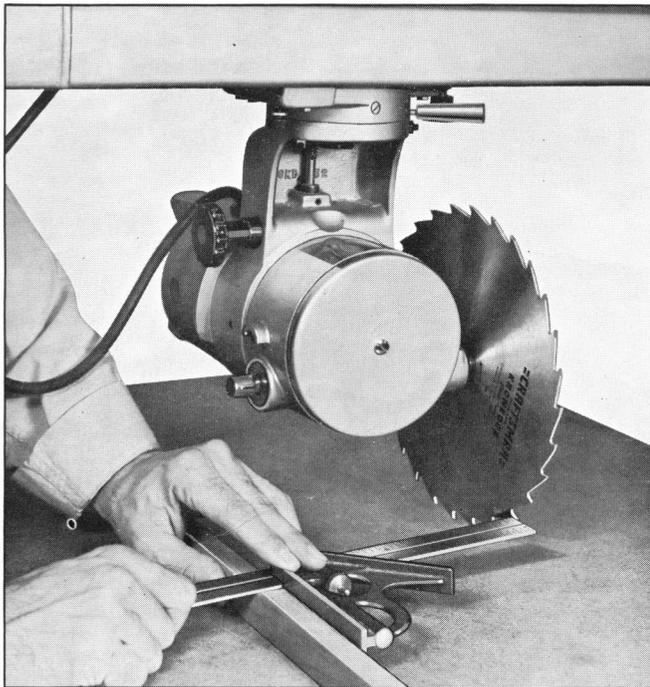

Fig. 23
3. Using a combination square, measure the distance from the fence to "one" saw tooth. See fig. 23. Lock carriage lock knob.